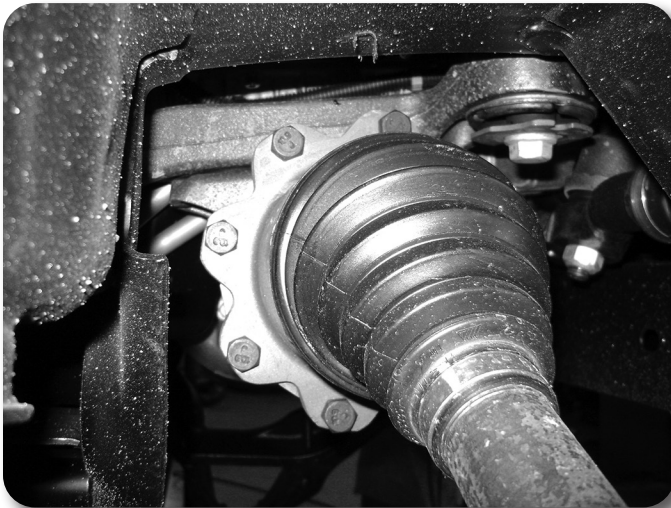

Figure 14
20. Remove the CV axle flange bolts at the differential **Figure 14**. There are 8 bolts per side. Remove the CV shafts from the vehicle and set aside. Save bolts.